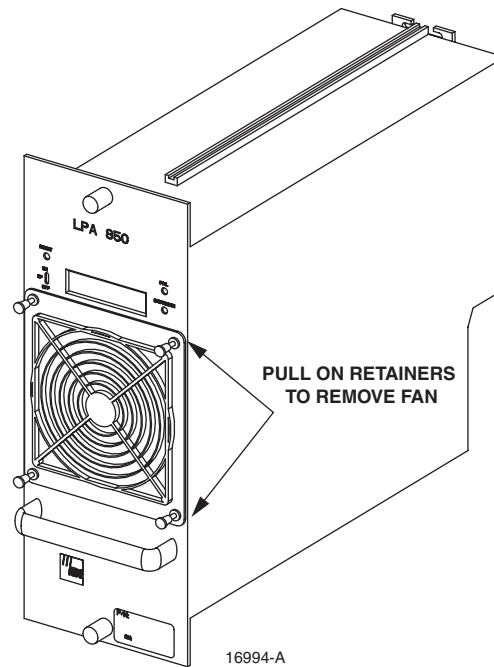

Figure 5-7. LPA Fan Removal and Replacement
5. Pull out the four retainers that secure the front fan to the LPA as shown in Figure 5-7 and same for reuse.